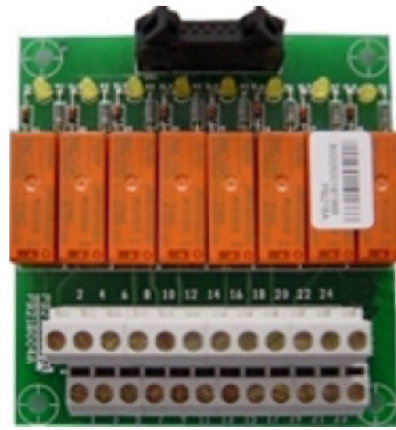

Fig. 34. Dry contact card (option).
- Electrical connection is done over the terminal strip of the same option card directly (see figure 34), which supplies a changeover contact for each one of the 8 available relays/alarms for its free using.